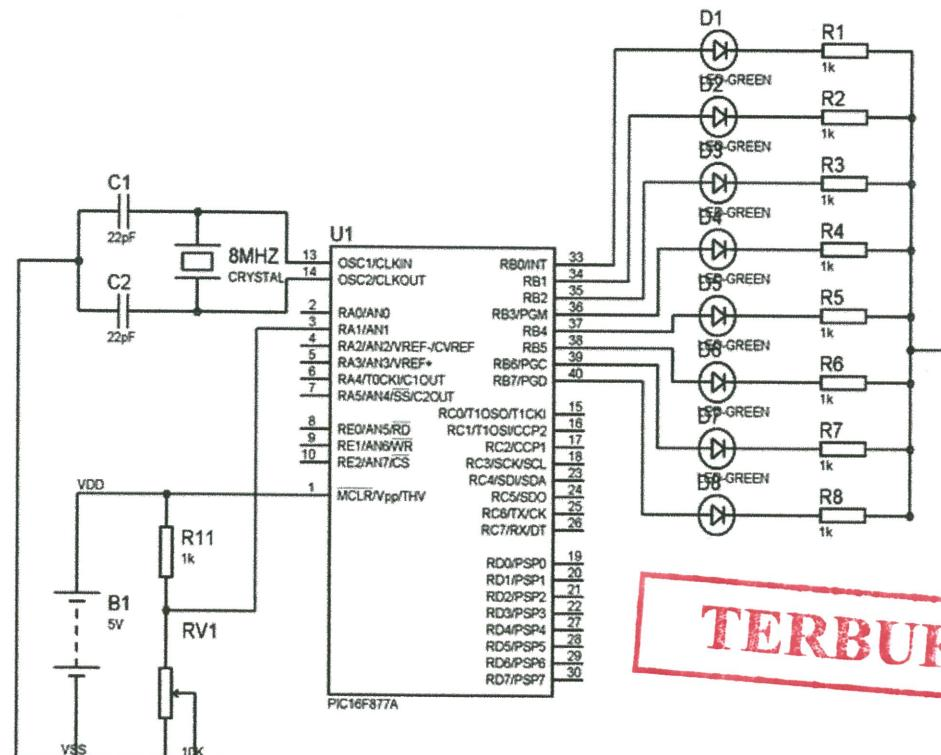

FIGURE Q4(b)
- (c) **Figure Q4(b)** shows a circuit diagram of converting analog input on channel 1 to 8-bit digital number with voltage reference (Vref-) 0V and high voltage reference (Vref+) 5V.